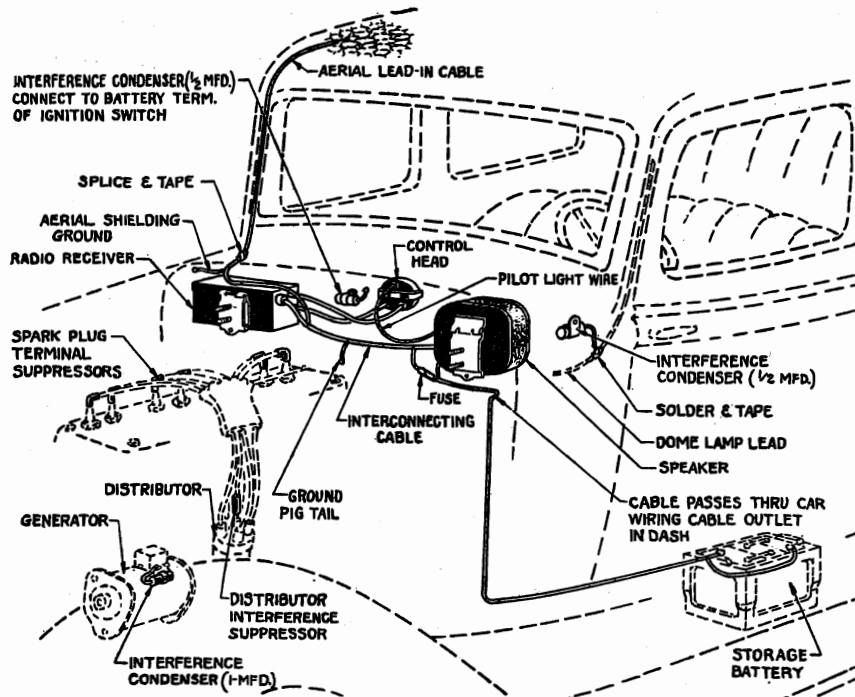

FIGURE 4
Remove the car wiring cable outlet grommet cap on the left-hand side of the dash, so that the battery cable can be installed. Push the metal fuse housing end of the cable through the grommet from the engine side, leaving just enough slack so that the cable can be connected and fastened in place as shown in Figure 4. Route the cable through the clip that holds the car wiring harness and along under the floor boards to the battery. Replace the grommet and cap, but do not connect the cable terminal to the battery terminal at this time.
lead-in. The shielding must be grounded to the cowl panel by drilling a $\frac{1}{8}$ " hole where the hood overlaps and as close to the A pillar as possible, using the 8-32 bolt and nut supplied for this purpose. (See Figures 4 and 5.) Remove paint from around hole.
Place the fuse and fuse insulator in the metal fuse housing of the battery cable and connect it to the small fuse connector which branches out of the interconnecting cable close to the Speaker. The two (2) shield terminals at the fuse housing must be connected under the same terminal screw that is used to ground the speaker cable shield at the speaker. Figure 4 shows the general layout of the cables and connections.
(see Figure 4). Install a 1/2 microfarad by-pass condenser, splicing and soldering it to the dome light lead as close as possible to the point where it enters the windshield pillar. The condenser must be fastened to the cowl panel in front of the hood line by drilling a 3/8" hole where the hood overlaps and as close to the pillar as possible, using the 8-32 bolt and nut supplied for this purpose. (See Figures 4, and 5.) Remove paint from around hole. Replace the car lighting fuse—test the lights and horn.